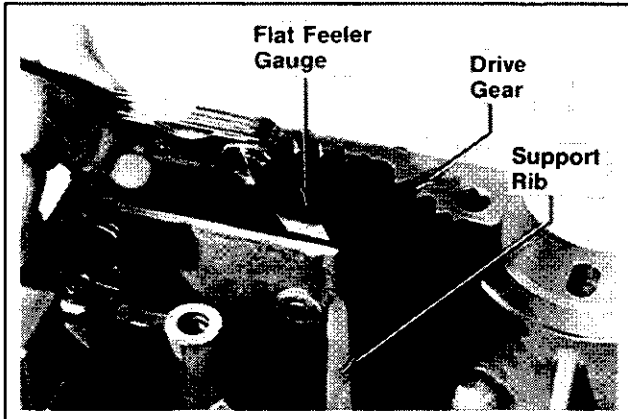

Figure 11-2. Measuring Oil Pump Drive Gear End Play.
2. Measure pump drive gear end play with a flat feeler gauge. Refer to Figure 11-2. Recommended end play is  $.010/.029$ ". Add one (1) additional shim spacer, if necessary, to bring end play within range.